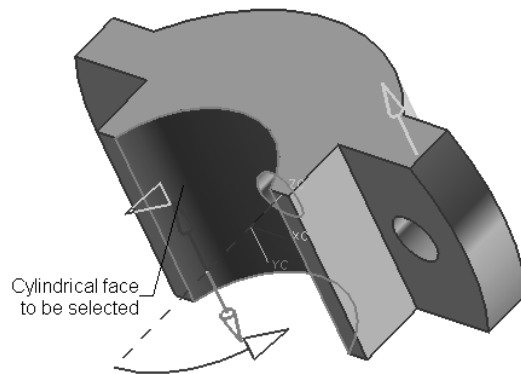

*Figure 8-81 Resulting assembly after assembling the Brasses*
13. Change the reference set of the Brasses to **MODEL** by right-clicking on it. The assembly, after assembling the Brasses is shown in Figure 8-81.